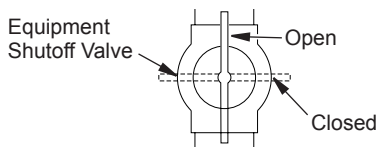

Figure 31 - Equipment Shutoff Valve
- Close equipment shutoff valve (see Figure 31).
- Open equipment shutoff valve (see Figure 31).